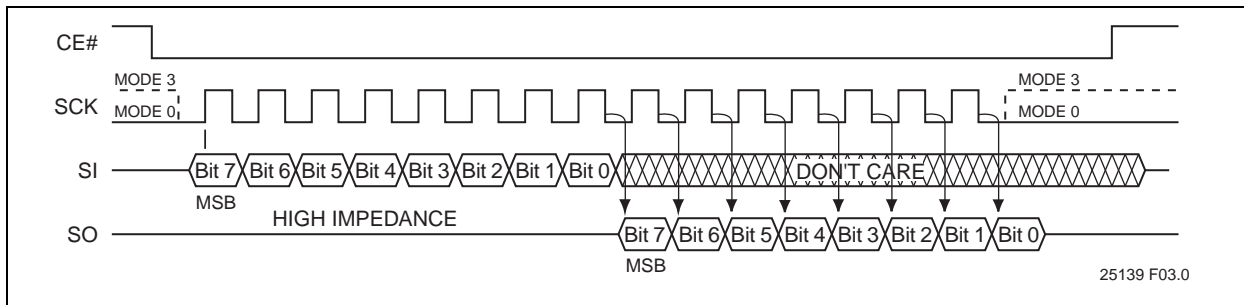

FIGURE 4-1: SPI PROTOCOL
The SST25WF020A supports both Mode 0 (0,0) and Mode 3 (1,1) of SPI bus operations. The difference between the two modes, as shown in Figure 4-1, is the state of the SCK signal when the bus master is in Stand-by mode and no data is being transferred. The SCK signal is low for Mode 0 and SCK signal is high for Mode 3. For both modes, the Serial Data In (SI) is sampled at the rising edge of the SCK clock signal and the Serial Data Output (SO) is driven after the falling edge of the SCK clock signal.